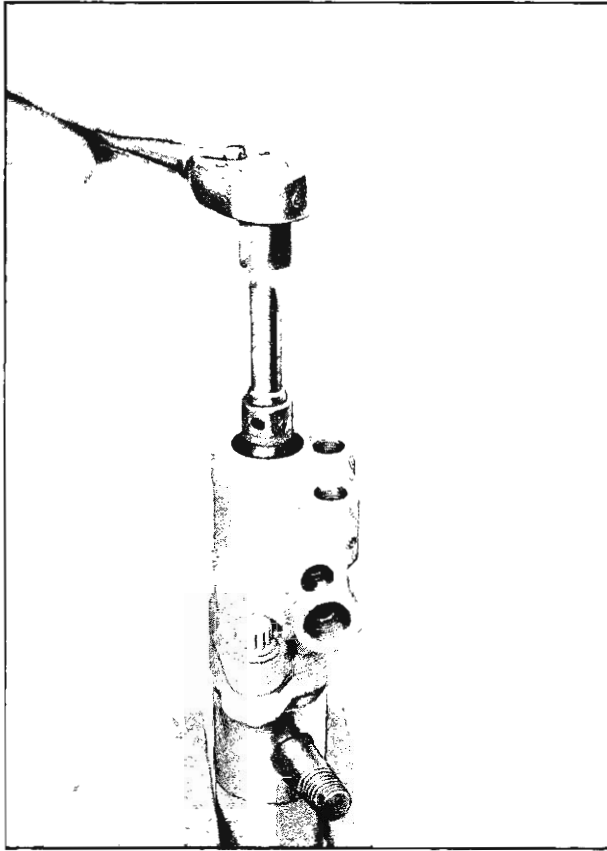

Fig. 79—Removing Lock Nut
2. Remove adjusting nut (fig. 79).